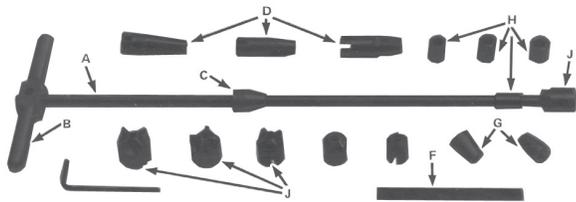

FIGURE 1 - Complete Certerfire Kit
The **Extension Rod ("A", Fig. 1)** is approximately 11½" long, made of high-strength stainless steel and threaded at one end to accept a variety of cutters and laps. The other end has a small, flat area, milled into one side approximately ⅛" from the end. This milled area was designed to provide a locking surface for the tool handle.
The **Handle ("B", Fig. 1)** is secured to the Extension Rod by a small Allen set screw. A ⅜" Allen wrench is also provided. (One note of caution at this point. It is **not** necessary to apply a great deal of pressure to the Allen screw when attaching the Handle to the Extension Rod. Make it snug and then stop. You don't want to strip out the screw threads.)
An **Aluminum Center Guide ("C", Fig. 1)** is provided to both protect the muzzle of the barrel from possible damage by the Extension Rod and to ensure that the Extension Rod is centered in the bore. It is utilized by sliding the guide onto the Extension Rod so its tapered portion will extend down into the bore during use. The Extension Rod is then inserted through the barrel from the muzzle end.
The **Chamfering Cutter ("D", Fig. 1)** is threaded onto the Extension Rod after the appropriate Brass Pilot is in place. Three Chamfering Cutters are provided: an **18° Cutter** for 9mm to .41 caliber barrels; an **18° Cutter** for .44 caliber to .45 caliber barrels; an **11° Cutter** covering all calibers from 9mm to .45. Also available is a **5° Cutter** for .38/.357 which duplicates the Ruger factory chamfer for these calibers. The 18° chamfer has been used
Additionally, **82° Cutter ("E", Fig. 1)** (9mm to .41 caliber) is available to slightly chamfer the inside edge of the rear of the forcing cone. These Cutters are used only after the forcing cone has been cut. Their function is to break the sharp corner that may be present on the inside edge of the barrel
The **Breaker Bar ("F", Fig. 1)** is provided for use as an aid in removing the various cutters from the Extension Rod. Slots are provided in the end of each cutter for its use. **DO NOT** attempt to remove cutters with pliers or vise grips. Doing so risks almost certain damage.
**Brass Laps ("G", Fig. 1)** in various calibers and 11° or 18° are available for those gunsmiths who wish to polish or lap the chamfer cut. After the final cut has been made, the proper Brass Lap is attached to the Extension Rod and an abrasive such as the Brownell Abrasive Compound used to coat the lap. The extension Rod is then rotated in a *clockwise* direction while the lap is pulled into the chamber. Normally, very little (if any) polishing is required.
The **Brass Pilots ("H", Fig. 1)**, which are available in five sizes (.32, .38, .41, .44, and .45), are very desirable accessory items. By utilizing a Brass Pilot, you can, in many instances, recut or realign off-center forcing cones. The Pilot also aids in ensuring that the Chamfering Cutter is in proper alignment with the axis of the bore during use in the installation of new barrels. It is **mandatory** that a Brass Pilot be used when utilizing a 90° Facing Cutter.
The **90° Facing Cutter ("J", Fig. 1)** is used to square up the breech end of the barrel. This is especially useful when fitting a new barrel to a revolver. The use of the Facing Cutter can make this job faster, easier and much more precise, and is just the ticket for removing "high" spots on the barrel which may interfere with cylinder rotation.